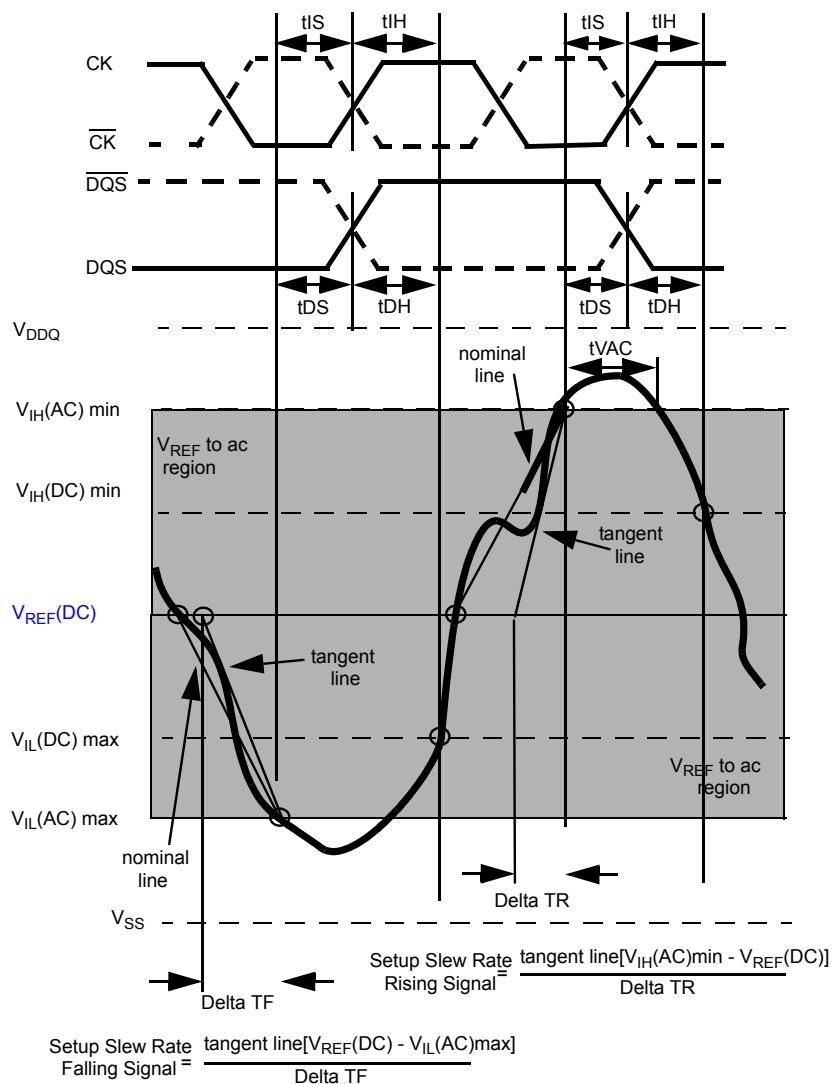

Figure 27 - Illustration of tangent line for setup time tDS (for DQ with respect to strobe) and tIS (for ADD/CMD with respect to clock)
between shaded 'V_{REF}(DC) to ac region', the slew rate of a tangent line to the actual signal from the ac level to dc level is used for derating value (see Figure 27).